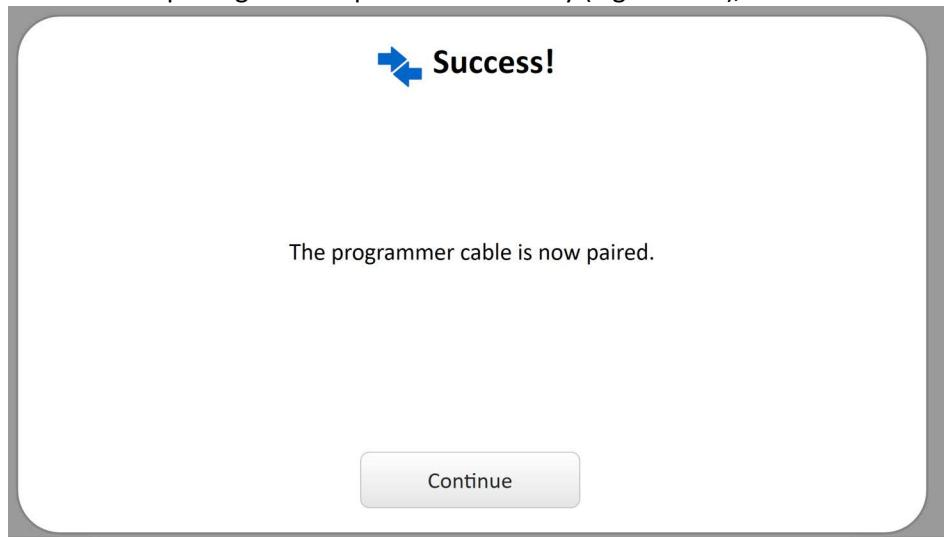

Figure 3-10. Programmer Cable Paired Successfully
- f. When pairing has completed successfully (Figure 3-10), select **Continue**.